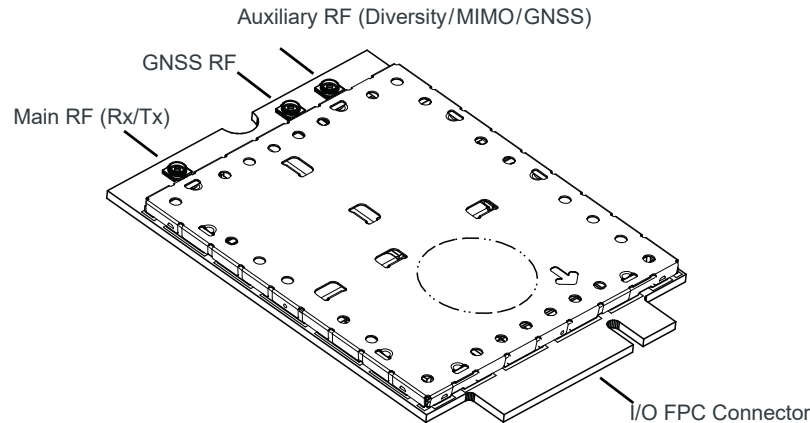

Figure 3-1: Module Connectors (Preliminary shield design, subject to change)
- Connect to system ground using the mounting hole shown in Figure 3-1 on page 35.